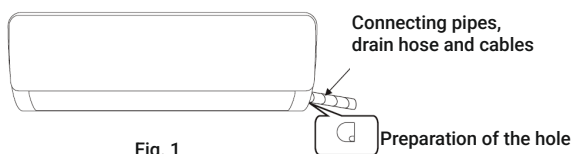

Fig. 1
- Depending on the position of the unit, the piping can be routed from the left or right side (Fig. 1) or vertically from the rear (Fig. 2), depending on the length of the indoor unit's pipe. When routing sideways, remove the end caps from the device's housing on the appropriate side.
- Depending on the position of the unit, the piping can be routed from the left or right side (Fig. 1) or vertically from the back (Fig. 2) (depending on the length of the indoor unit pipe). In the case of side routing, the caps of the housing exit on the appropriate side of the device should be cut off.